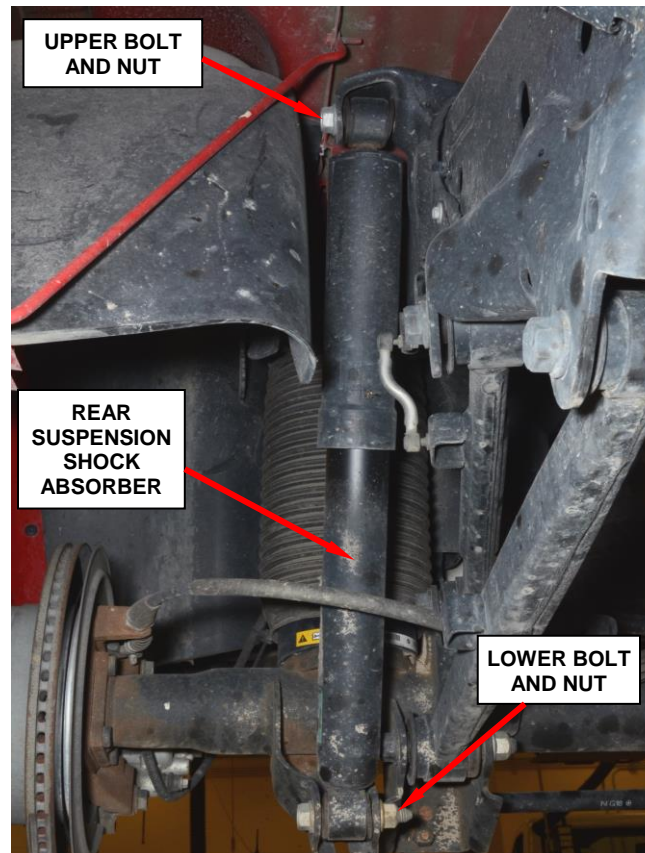

Figure 3 – Upper and Lower Shock Absorber Bolts and Nuts
6. Remove and save the shock absorber upper bolt and nut (Figure 3).
7. Remove and save the shock absorber lower bolt and nut (Figure 3).
10. Install the upper shock absorber bolt and nut finger tight (Figure 3).
11. Install the lower shock absorber bolt and nut finger tight (Figure 3).